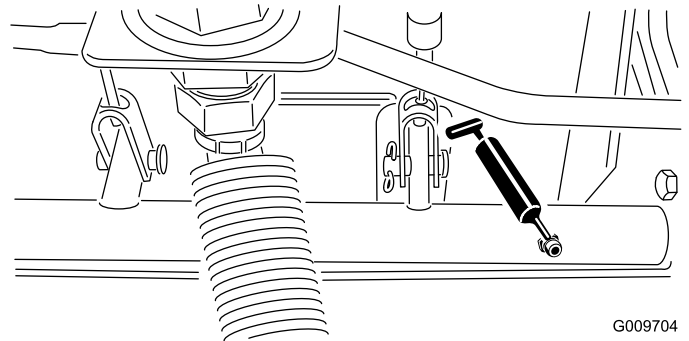

Figure 27
- Brake-shaft pivot bearings (5) (Figure 27)